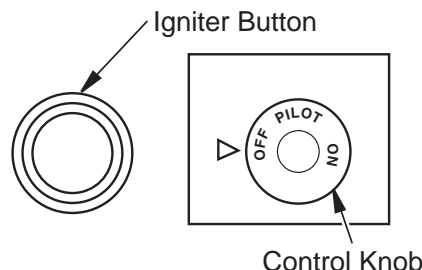

Figure 41 - Control Knob and Igniter Button Location
5. Wait five (5) minutes to clear out any gas. Then smell for gas, including near the floor. If you smell gas, STOP! Follow "B" in the safety information, column 1. If you don't smell gas, go to the next step.
6. Press in and turn control knob counter-clockwise ↺ to the PILOT position. Press in control knob for five (5) seconds (see **Figure 41**).